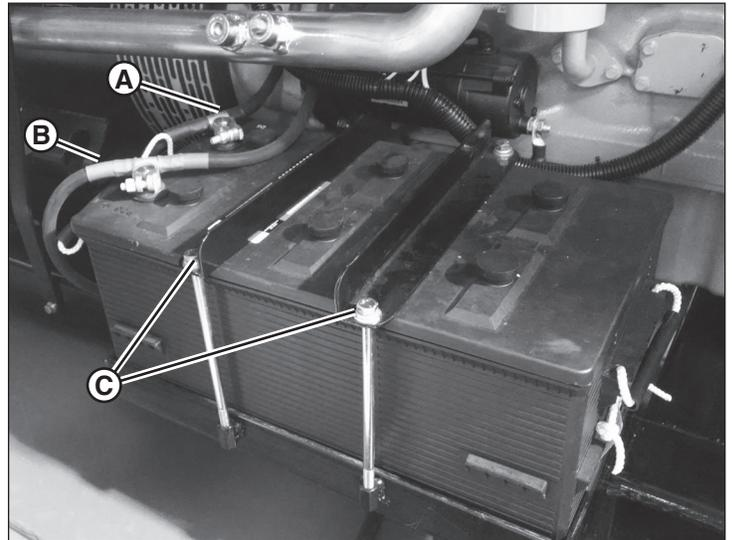

Figure 30
1. Disconnect the black negative (-) cable (**A**, Figure 30) from the negative (-) battery terminal, and secure away from the battery.
2. Disconnect the red positive (+) cable (**B**, Figure 30) from the positive (+) battery terminal, and secure away from the battery.
3. Remove the hardware (**C**, Figure 30) securing one side of each hold-down bracket, and swing the brackets off to the rear of the battery.